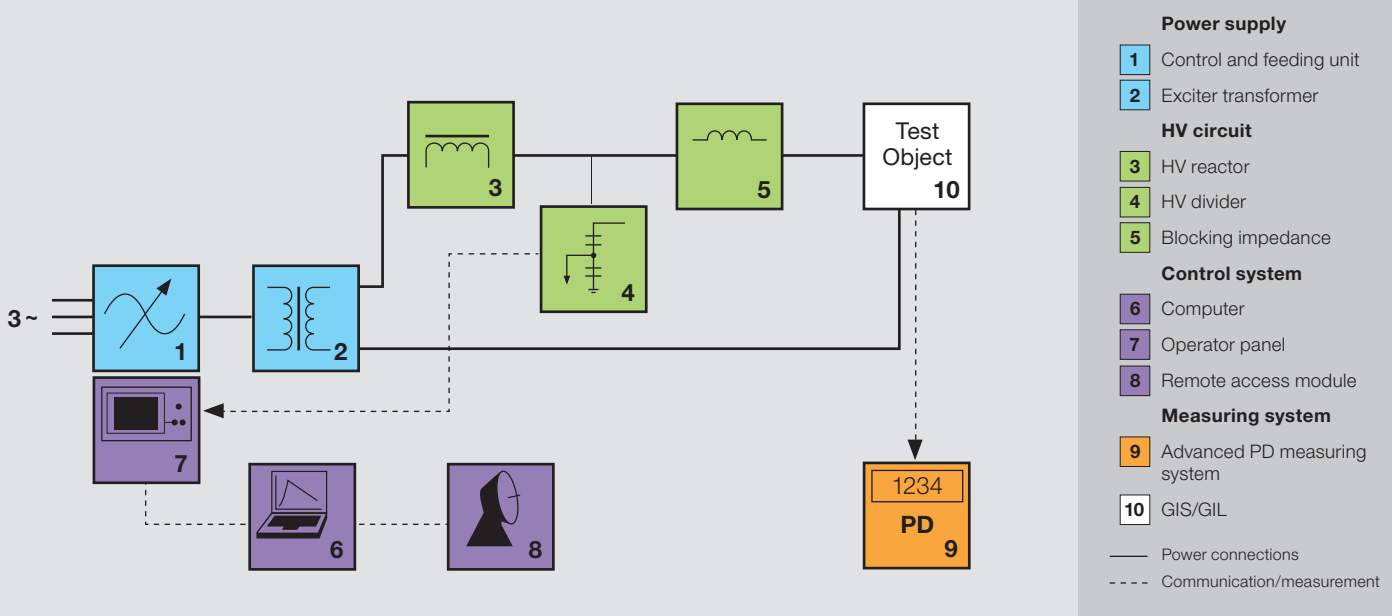

Fig. 3 Block diagram of AC resonant test system for on-site testing of GIS/GIL
The control and feeding unit (1) [see fig. 3] consists of a static power inverter and a control system. The power inverter converts the three-phase input voltage into a single-phase output voltage with a rectangular waveform.